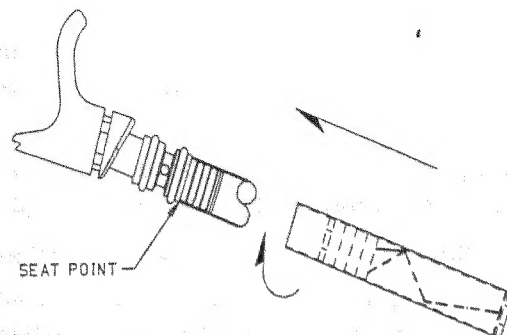

FIGURE 3
5. Position replacement collection chamber so that open end is towards holder, push and rotate collection chamber (see Figure 3) onto holder. Chamber should slide over two o-ring seals and stop on holder shoulder.